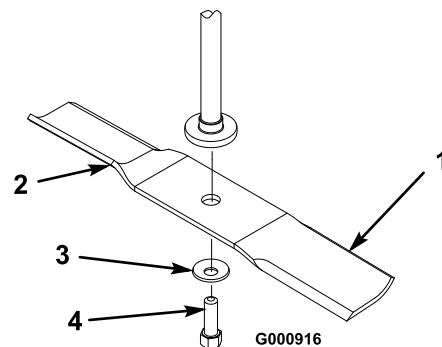

Figure 38
Hold the blade end using a rag or thickly-padded glove. Remove the blade bolt, curved washer, and blade from the spindle shaft (Figure 38).
1. Install the blade onto the spindle shaft (Figure 38).
2. Install the curved washer (cupped side toward the blade) and blade bolt (Figure 38). Torque the blade bolt to 35-65 ft-lb (47-88 N·m).